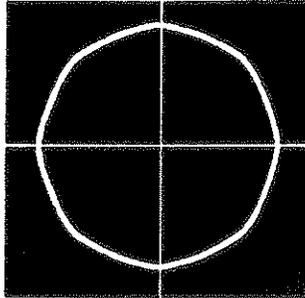

Figure 3-11
42. Connect a 50Ω termination to the data input. This will produce a TTL 0. The oscilloscope display should resemble figure 3-11.